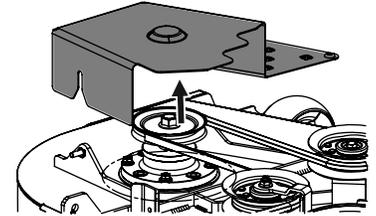

Figure 47
3. Remove the belt covers from the deck. See Figure 47.